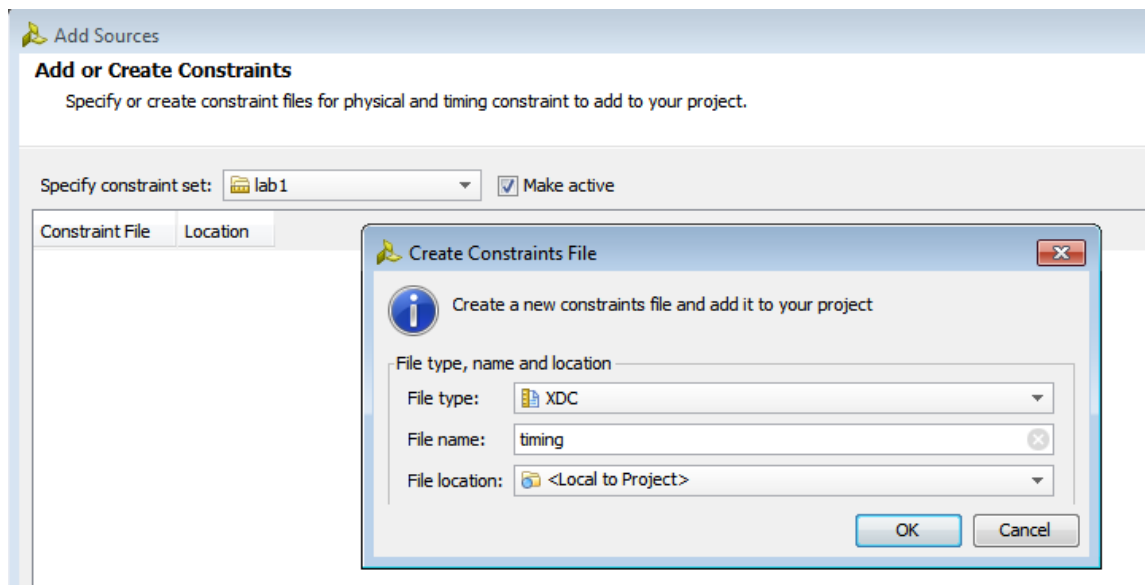

Figure 5: Constraints File Name
6. Select **Create File** to add a new XDC file to the project. Enter **timing** as the file name. Leave the file as **<Local to Project>**, and click **OK**. See Figure 5.